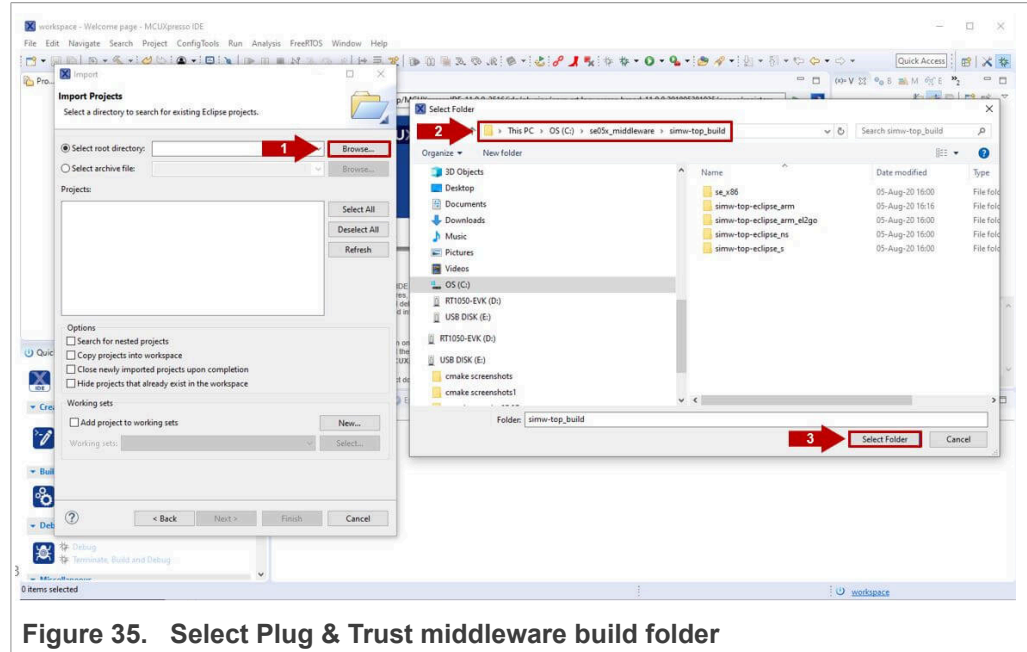

Figure 35. Select Plug & Trust middleware build folder
middleware directory (in this case *C:\se05x_middleware\simw-top_build*) and (3) click on *Select folder* as shown in Figure 35: